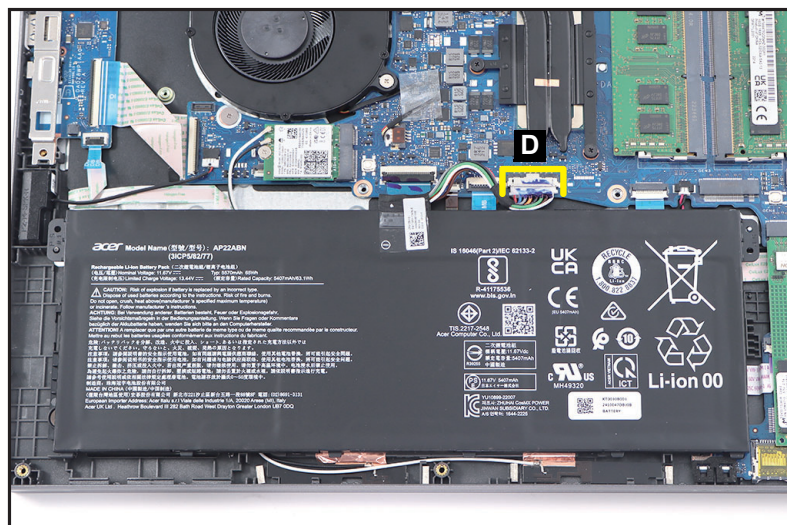

Figure 1-7. Battery Pack Removal
3. Disconnect the battery cable from the mainboard connector (D) (Figure 1-7).